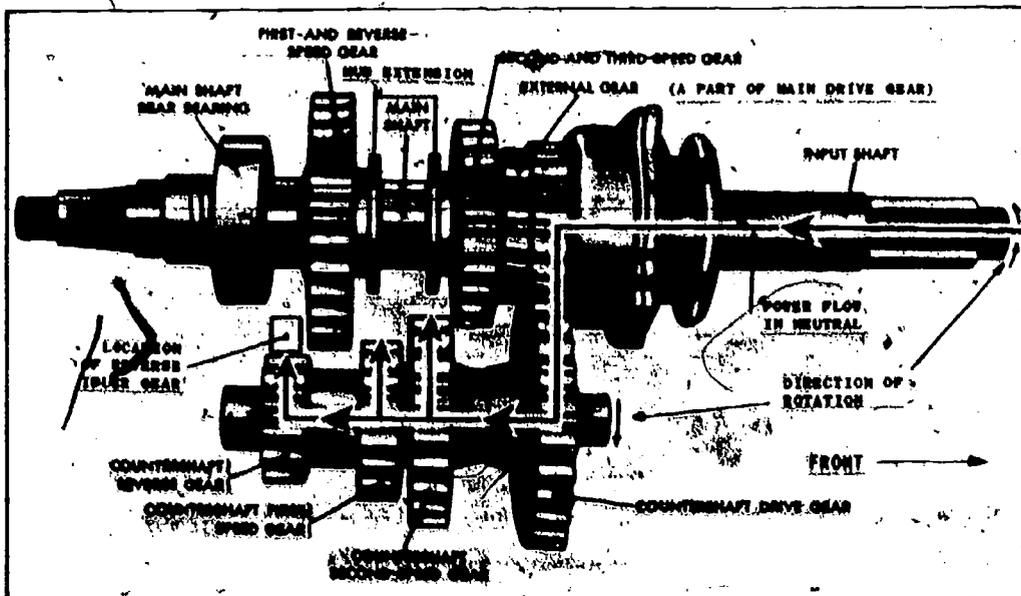

Fig 3-21. Sliding-spur-gear transmission.
(1) Sliding-spur-gear (fig. 3-21). This is a simple sliding gear transmission. It is the type used in some crawler tractors, similar gear trains of cranes, and for some transfer cases. The component parts can be enclosed in a case or they can be exposed. An exposed gear system is referred to as "the gear train."
(a) Components. The transmission (fig. 3-21) consists of four shafts, seven gears (reverse idler gear not shown), bearings, seals, linkage, and the case.
2. The main drive gear external gear (fig. 3-21) is keyed to, pressed to, or constructed as part of the input shaft. It is two gears constructed in one piece. It has external teeth that mesh with the countershaft drive gear and another set of teeth that will mesh with a gear on the main shaft. The teeth that mesh with the main shaft gear can be either internal or external. The main drive gear is also machined to receive a bearing and on some machines splines smaller than the inside diameter of the bearing are cut. The splined portion provides a method of driving an attachment power-takeoff (PTO) shaft.
(b) Function. Power from the clutch turns the input shaft and gears. The countershaft drive gear, being in mesh with the main drive gear, will also rotate, but in the opposite direction, causing the countershaft and countershaft gears to rotate. The reverse idler gear will rotate in the opposite direction of the countershaft reverse gear. The main shaft and gears will not rotate unless the power train is moved or the straight spur sliding gears are in proper mesh. If the second- and third-speed gear is moved forward and the internal gear and external gear mesh, the main shaft will rotate in the same direction as the input shaft. If the gear is moved to the rear and in mesh with the countershaft second-speed gear, it will rotate in the same direction as the input shaft, but at a reduced speed because of the different gear ratio. When the first and reverse gear is in mesh with the reverse idler gear, the main shaft will turn in the opposite direction of the input shaft. Study figure 3-21 and note the size of the gears. Trace the power flow through the gears and visualize the gear reductions. Remember that when a large gear is driving a smaller gear there will be an increase in speed and that direction of rotation will change when transmitted from one shaft to another shaft.